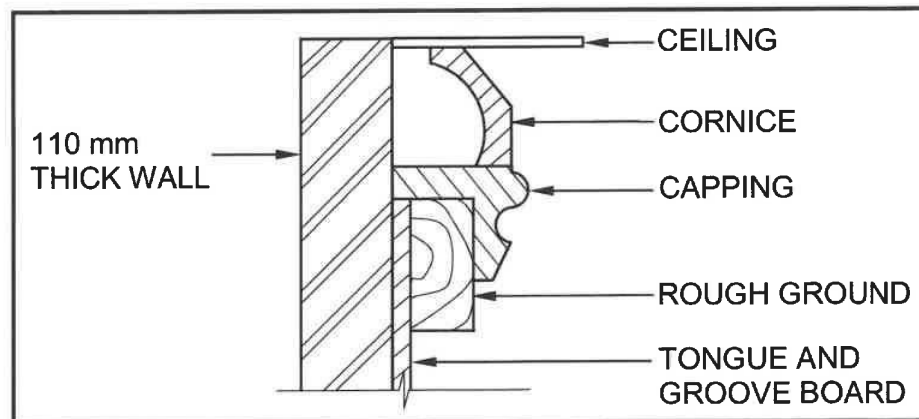

FIGURE 3.2
- 3.2 FIGURE 3.2 below shows an INCORRECT vertical section through part of a wall panel and the finish at the top.
- 3.2.1 Analyse the drawing and identify THREE installation errors in FIGURE 3.2. (3)